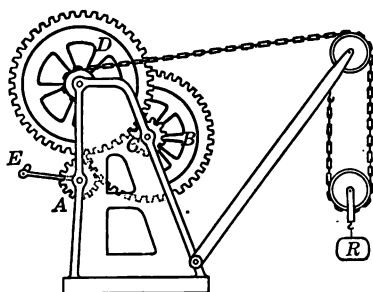

FIG. 175. — Builder's crane.
28. The crane of Fig. 175 has a lever arm of 20 in. The gear wheels A , B , C , and D have 12, 60, 12, and 72 cogs respectively. If the axle has a radius of 4 in., what is the mechanical advantage of the crane?